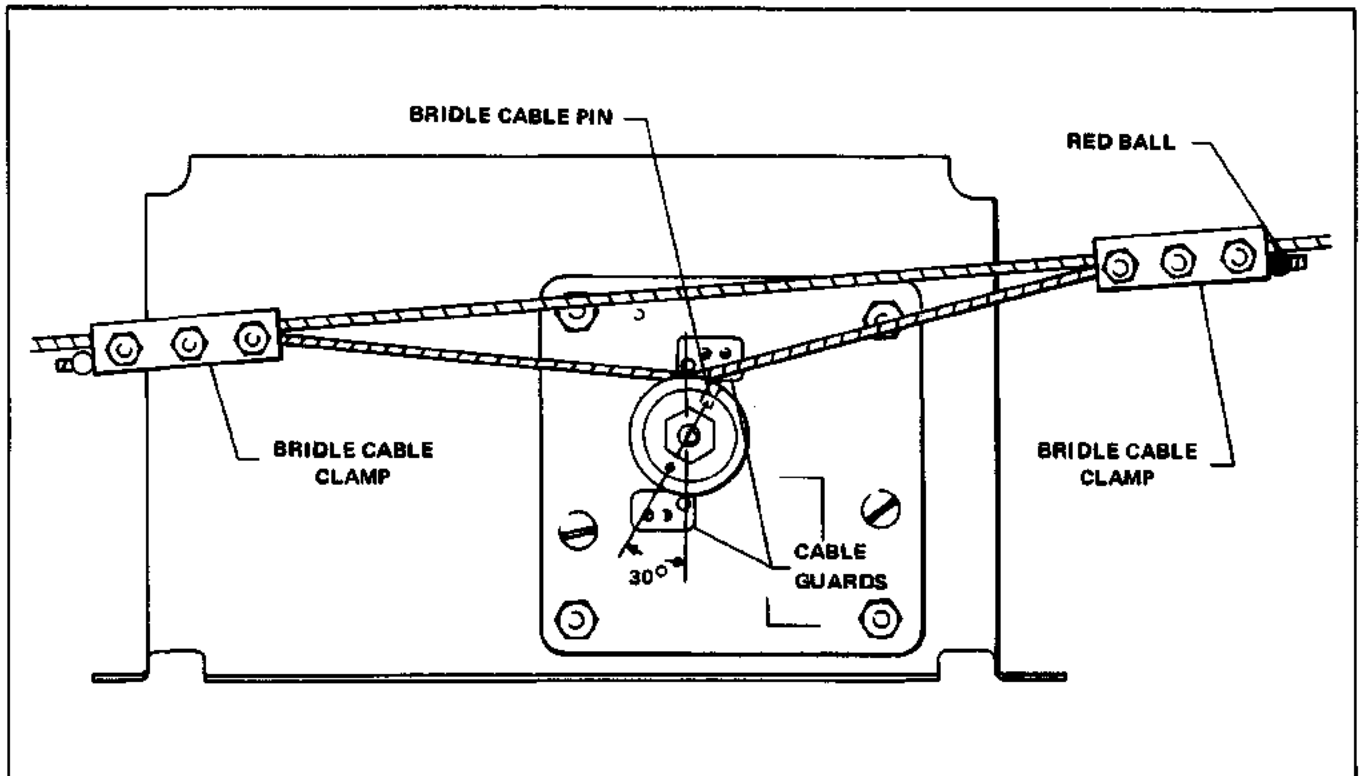

Figure 3-30. Roll Servo Installation, PA-34-200T and PA-44-180
3-112. INSTALLATION OF ROLL SERVO. (PA-34-200T) (Refer to Figure 3-30.)
- e. **REFER TO FIGURE 3-8 AND CHECK THAT CONTROL CABLE TENSION (Z) IS ADJUSTED TO 40 + 5 - 0 POUNDS PRIOR TO ATTACHING THE BRIDLE CABLE CLAMPS.** Ascertain area on cable where clamps attaches is clean, dry and free of all lubricants and anti-corrosive additives. Attach the bridle cable to the aileron balance cable. The bridle cable is drawn to the balance cable and attached with clamps at the previously painted locations on the balance cable. The longest portion of the bridle cable or the end with the red ball extends outboard toward the left side of the airplane. (Refer to Figure 3-30.) (Should the balance cable not be painted, position the control wheel in neutral and align the bridle cable pin, installed in the capstan, as shown in Figure 3-30.) Adjust the bridle cable clamps so the bridle cable tension (Y) is equal to the control cable tension +0 - 15% between the bridle cable clamps (X) as shown in Figure 3-8 without increasing the control cable tension from the bridle cable clamps outward. At no time shall the bridle cable tension be greater than the control cable tension between the two bridle cable clamps. Adjusting the bridle cable tension will lower the control cable tension between the two bridle cable clamps. Torque the bridle cable clamp bolts to 55 ± 5 inch-pounds.